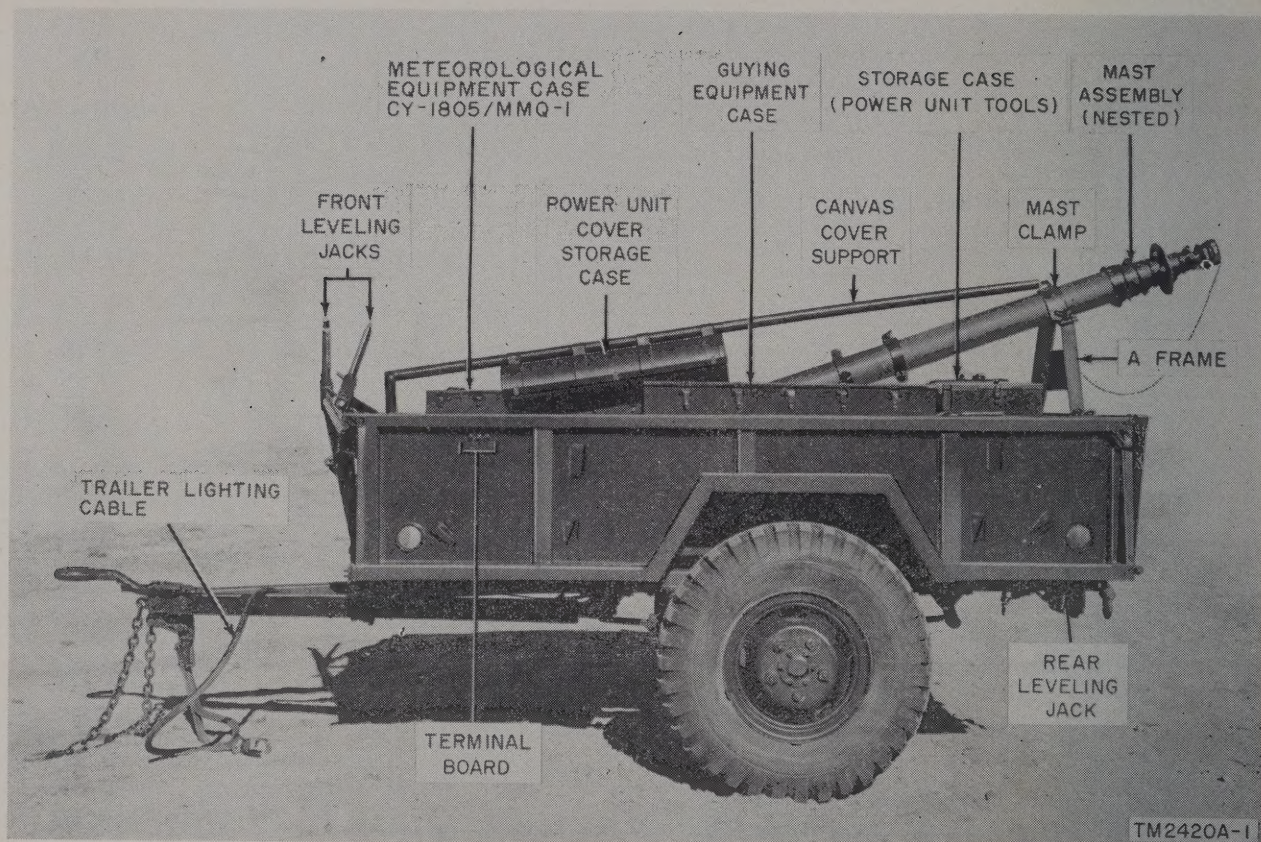

Figure 1. Wind Measuring Set AN/MMQ-1A, canvas cover removed.
a. This manual contains instructions for the installation, operation, maintenance, and repair of Wind Measuring Set AN/MMQ-1A (fig. 1).